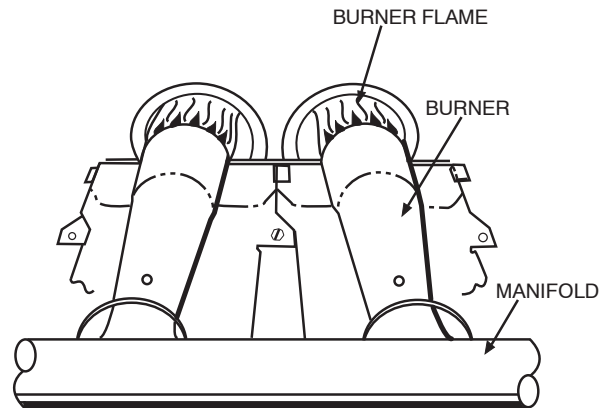

Fig. 8 - Monoport Burner
1. Inspection of all flue product passages—including the burners, heat exchanger, and flue collector box. Make sure the burner flames are blue in color and in proper adjustment. Refer to Fig. 8 for burner flame.